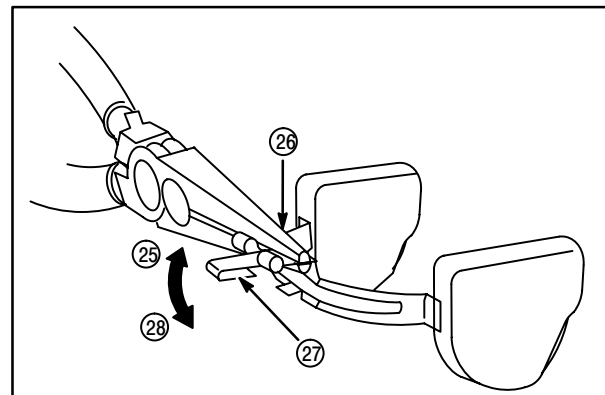

Fig. 93
To adjust float level, hold float arm at (26) with needle nose pliers, **Fig. 93**. Carefully bend tang **CLOCKWISE** (25) to raise the float level, **COUNTERCLOCKWISE** (28) to lower the float level. **DO NOT** collapse hooked end of float tang (27).